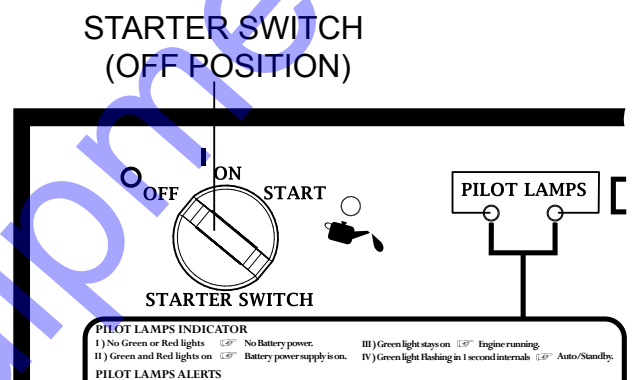

Figure 16. Starter Switch (OFF)
- Turn the starter switch to the **OFF** position (Figure 16).